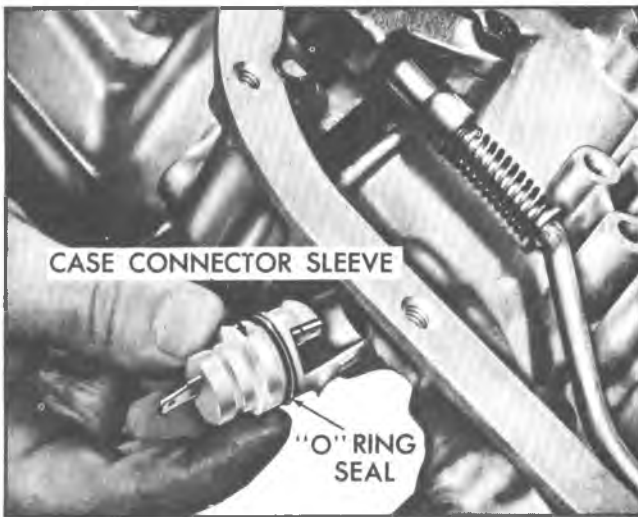

Fig. 145T--Installing Electrical Connector and "O" Ring Seal
11. Lubricate and install electrical connector with lock tabs facing into case, positioning locator tab in notch on side of case (fig. 145T).